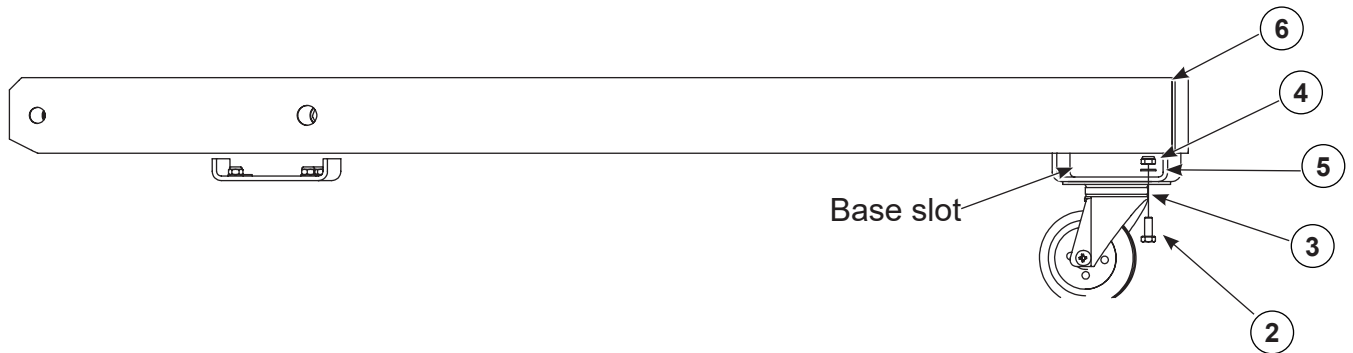

Figure 6 Caster Assembly Installation To Leg (2 of 2)
2. See Figure 6. Install bolt (2) to caster assembly (3) and leg (6).
3. Position lock washer (5) and nut (4) into base slot.
4. Utilizing a wrench or equivalent tool, tighten bolt (2) to 40.6 ft-lb (55 N•m).